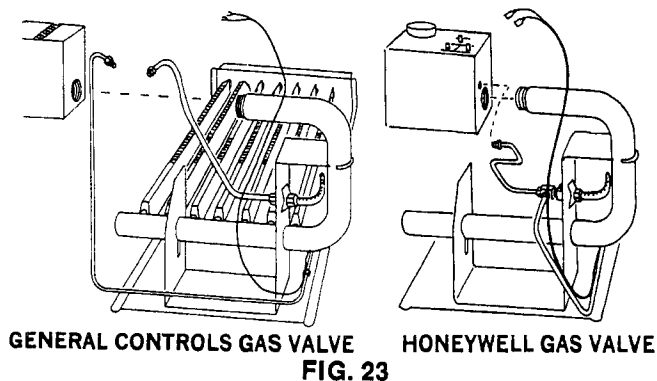

FIG. 23
5. *Debris may have collected under gas valve seat.* Replace gas valve. Disassembly of valve will invalidate manufacturer's warranty. See Para. 5/6 and Fig. 23 for replacement procedure.
Procedure for testing the operating gas valve is found in paragraph 5/3, Step 2. To remove and replace gas valve, follow steps in Fig. 23.